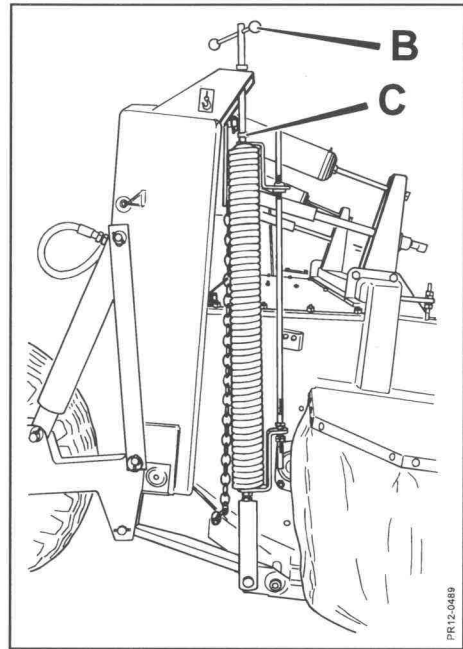
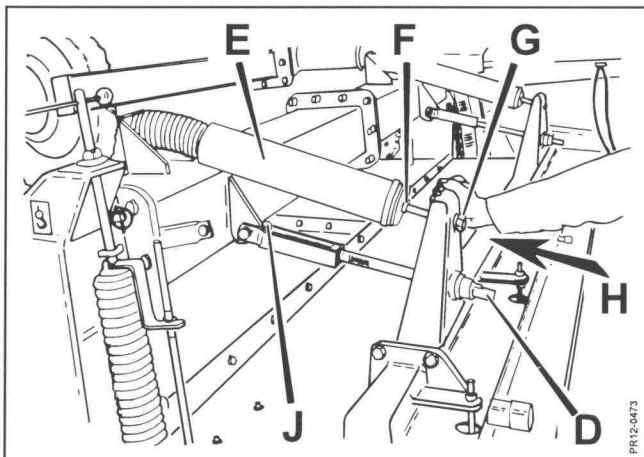

Fig. 4-16
Fig. 4-19
- Fig. 4-19** The vernier adjustment of the stubble height is made by adjusting the inclination of the cutter bar on the spindle at **D**. A spring cotter **J** maintains the adjustment. Adjustment to be made in both sides!
- Fig. 4-16** 3) **The height relief springs** are adjusted with the handle **B**, until the cutter bar has a **suitable ground pressure**.
- Fig. 4-19** 4) The **Top Safe** springs **E** are adjusted until the cutting platform can be moved in the direction of **H**, with a suitable pressure.
- A) By loosening the horizontal top springs a little (Fig. 4-19, page 40), and tightening the vertical height relief springs a little (Fig. 4-16).